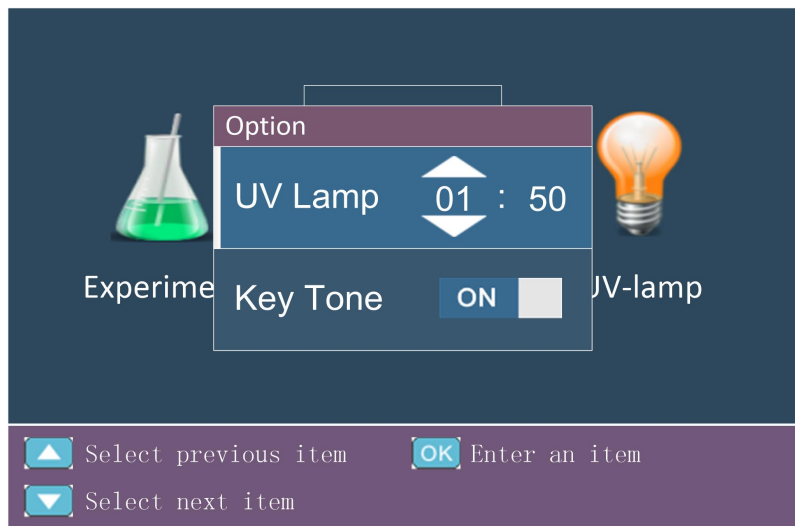

Figure 4-8 Instrument Setting Interface
User could press or to select the < **Option** > icon on the standby interface, and then press to enter the instrument setting interface, as shown in figure 4-8.
- ▶ Press  or  to select the <  **Option** > icon. Then press  to enter the instrument setting interface as shown in the figure 4-8.
- 1) Press  or  to select the <  **Option** > icon. Then press  to enter the instrument setting interface as shown in the figure 4-8.